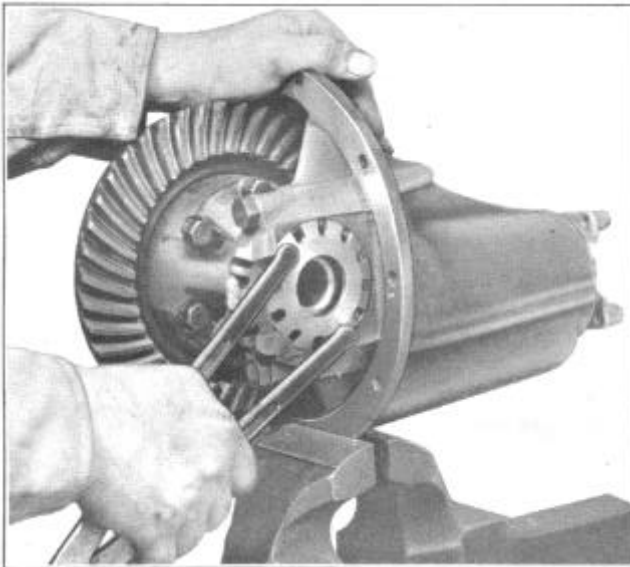

FIGURE 30
10. Turn the right hand adjusting nut to the right (clockwise) and draw it up tight, using differential bearing adjusting nut wrench J-972, See Figure 30.